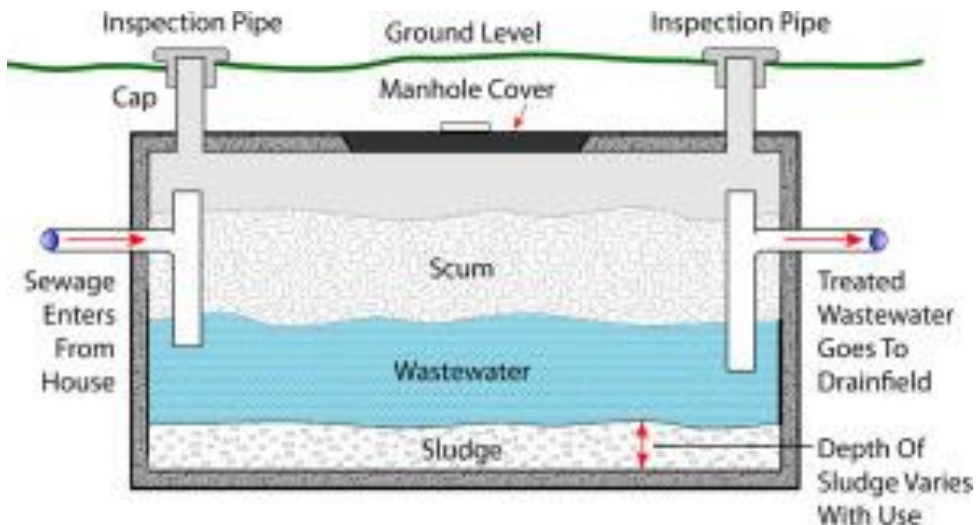

Figure 6. Schematic of a typical septic tank [13].
- Figure 6. Schematic of a typical septic tank